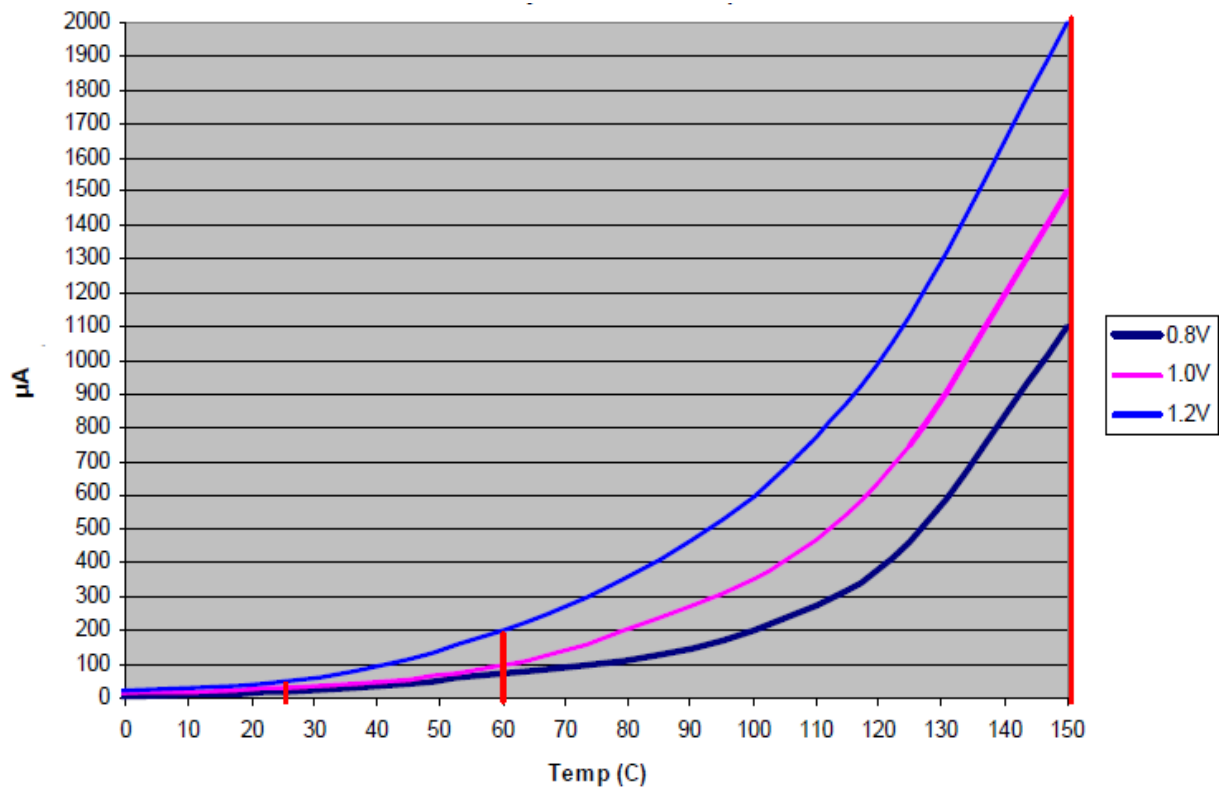

Figure 2. $I_{S\text{TB\text{Y}}}$ Worst-case Specifications
Figure 2 shows an approximate interpolation of the $I_{S\text{TB\text{Y}}}$ worst-case specification to estimate values at different voltages and temperatures. The vertical lines shown at 25 °C, 60 °C, and 150 °C in Figure 2 are the actual $I_{\text{DD_STBY}}$ specifications (27d) listed in Table 9.
- ¹¹ The current specification relates to average standby operation after SRAM has been loaded with data. For power up current see Section 3.7, "Power-Up/Down Sequencing", Figure 2.